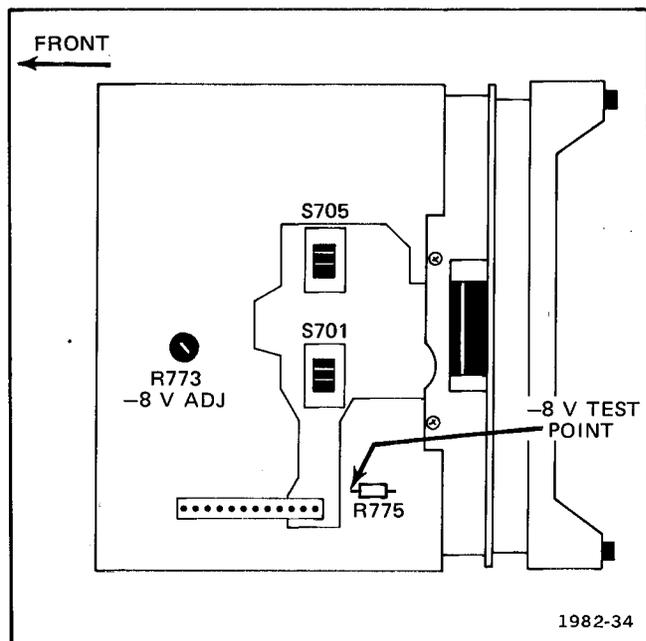

Fig. 4-2. Power supply adjustment location (bottom of T921 and T922).
Because of the different mechanical layout of the T922R, use Fig. 4-1 (which shows the adjustment locations on the T922R) in place of Figs. 4-2 through 4-4
a. Connect digital voltmeter between the -8 V side of R775 and ground (see Fig. 4-2). If meter does not read between -7.96 V and -8.04 V, proceed to part b.
b. ADJUST—R773, -8 V Adj (see Fig. 4-2) for -8.00 V dc.